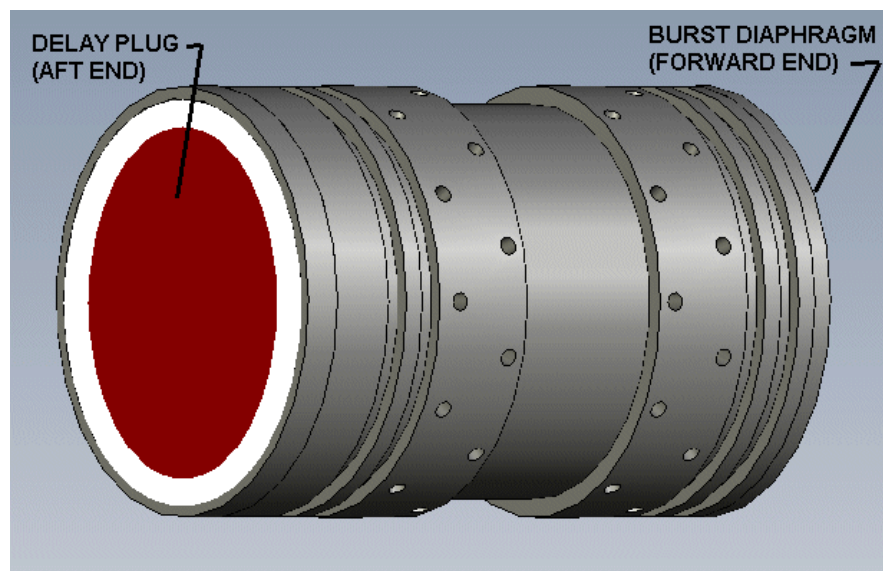

Figure 5 – Mid-bulkhead assembly, indicating Delay Plug (aft end) and Burst Diaphragm
- 1. Protect exposed surface of Delay Plug from contamination by wrapping end of Mid-bulkhead (P4) with poly wrap held in place by elastic band (ref. Fig.5).